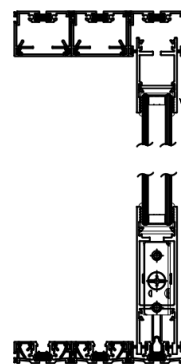

Figure 13b
18. Temporarily adjust the panel upward by lifting the panel and turning the adjustment screw shown in figure 13a clockwise as shown in figure 13b until the rollers regain contact with the track. It is important to physically lift the panel while adjusting upward so that the adjustment screw does not strip due to the weight of the panel. Adjust the rollers of the active panels by turning the adjustment screw shown in figure 13a to achieve proper alignment of the door panels (it is easier to adjust down than up). Turn screw clockwise to raise the panel and counterclockwise to lower the panel as shown in figure 13b.